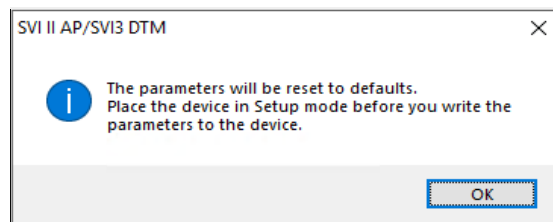

Figure 37 - Reset Basic Config and Cal to Defaults Message
2. Click  and Figure 37 appears.